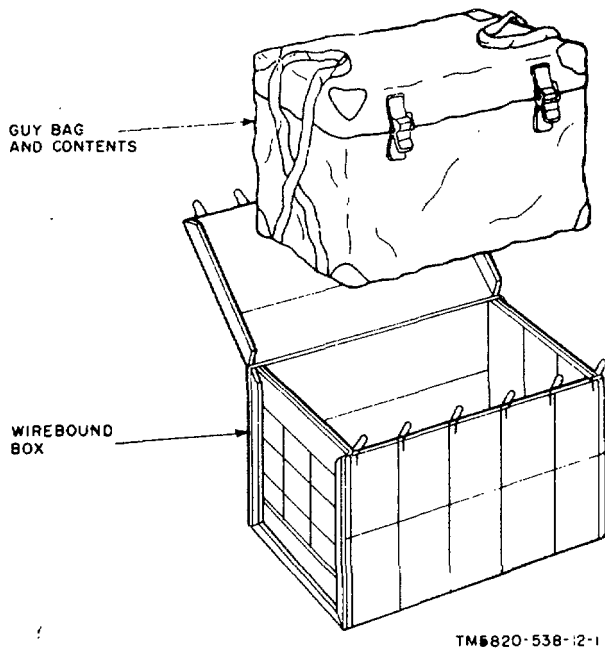

Figure 2-1. Typical packaging, guy bag.
a. *Packaging Data.* When packed for shipment, the components of the AB-577/GRC are packed in wooden boxes or crates as shown in figures 2-1 through 2-3. The components of the MK-806/GRC are packed in a similar manner. The packaging data is given in the following chart:
(4) To unpack the launcher and mast section carrier, pull out the screwdrive nails, six from the front of the crate, and six from the rear.
(5) Remove the wooden blocks that were held in place by the screwdrive nails.
(6) Lift the assembly from the crate.